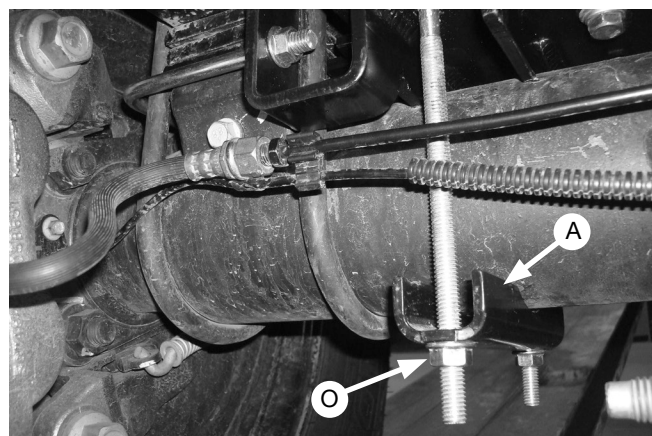

Fig. 10
3. Install the clamp bar (A) onto the carriage bolts under the axle (Fig. 10). Attach with two 3/8" serrated flange lock nuts (O). Using a 9/16" crows foot adapter, evenly torque the leaf spring U-bolts to 10 lb.-ft. (14Nm), then torque the lower axle clamp bar hardware to 16 lb.-ft. (22Nm). Repeat on the opposite side.